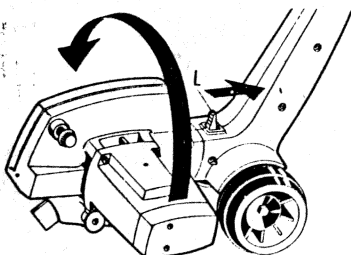
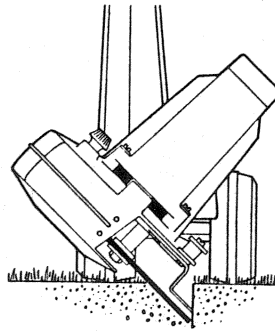
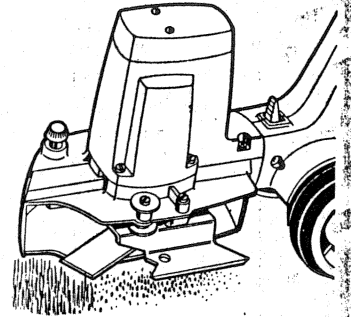

FIGURE 10
FIGURE 11
FIGURE 12
2. Push button "L", Figure 10, in direction of arrow, holding it back momentarily as you start to rotate the cutting head. Release the button, continue rotating, and the cutting head will snap into a locked, 45° position for **TRENCHING**. In this position (Figure 11), the tool will cut a "V"-shaped trench along the edges of flower and shrubbery beds, and around trees in preparation for sod removal. Be careful not to tip the front of the tool too far downward or it will dig too deep and stall the tool.
3. To put the cutting head in the **TRIMMING** position (Figure 12), hold the button ("L", Figure 10) back until you rotate the head past, or out of, the 45° Trenching position. Release button, continue rotating, and the head will snap into the locked, 90° Trimming position. Now, with the blade parallel to the ground, you can roll the tool forward for grass trimming. Trimming will be most efficient with a new or sharpened blade, as edging and trenching dull the cutting edges of the blade because of dirt abrasion.